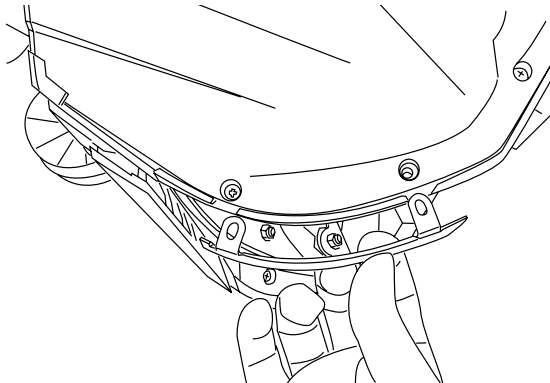

**Figure 29**
3. Lift the belt tension and assemble the new belt by rolling it into the big pulley from upside (Fig. 29).